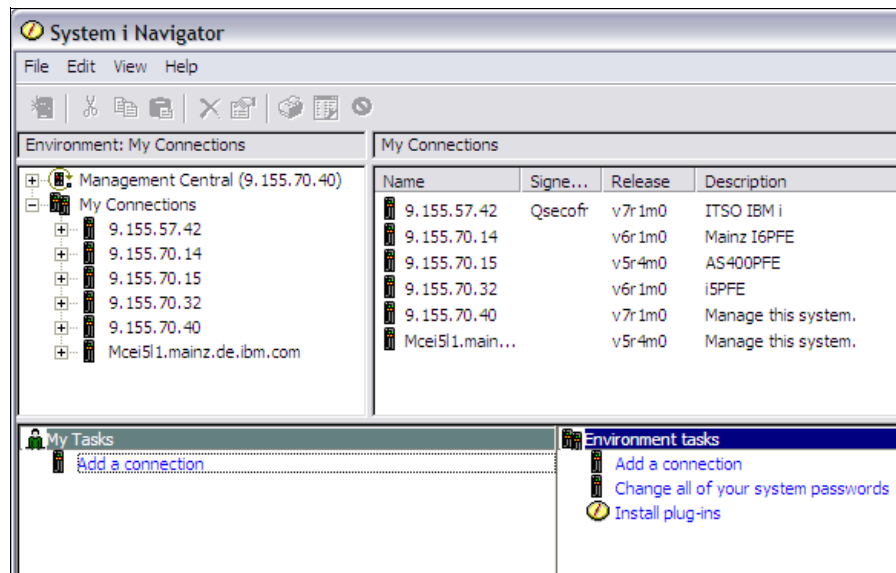

Figure 11-13 System i Navigator initial window
- Start System i Navigator. Figure 11-13 shows the initial window.